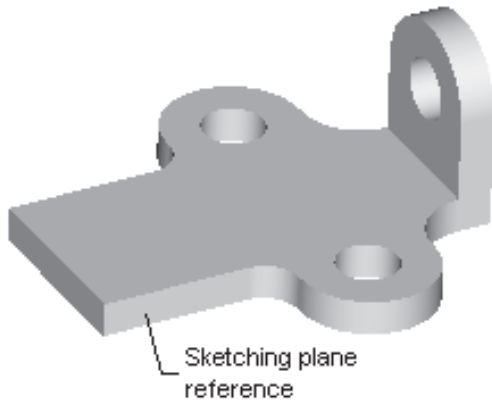

Figure 6-27 Sketching plane reference for third feature
- d. The third feature is the same as the second feature, and therefore, a copy of it will be created by defining new references, see Figure 6-27.
6. Select the surface shown in Figure 6-27 from the graphics screen as the surface on which the copied feature will be placed. The TOP datum plane is highlighted and you are prompted to select a horizontal sketcher reference corresponding to the highlighted surface.